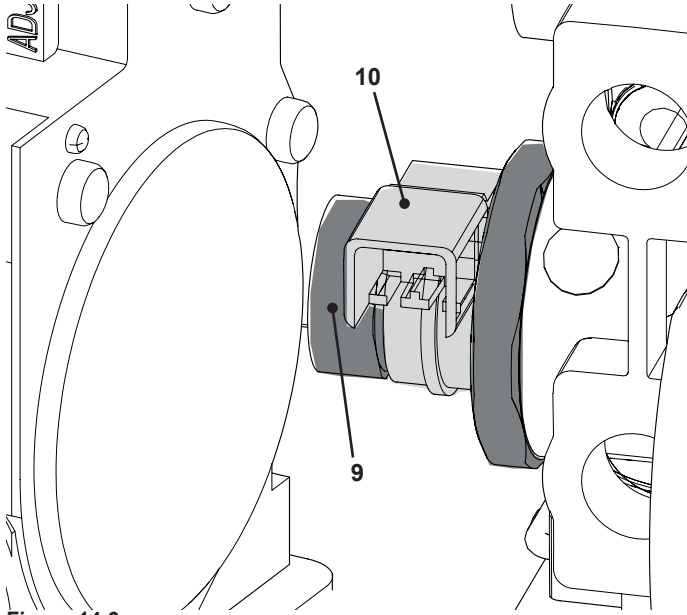

Figure 14.6
- 3 Remove the sensor holder "10" and unscrew the flow meter plug "9" (Figure 14.6).